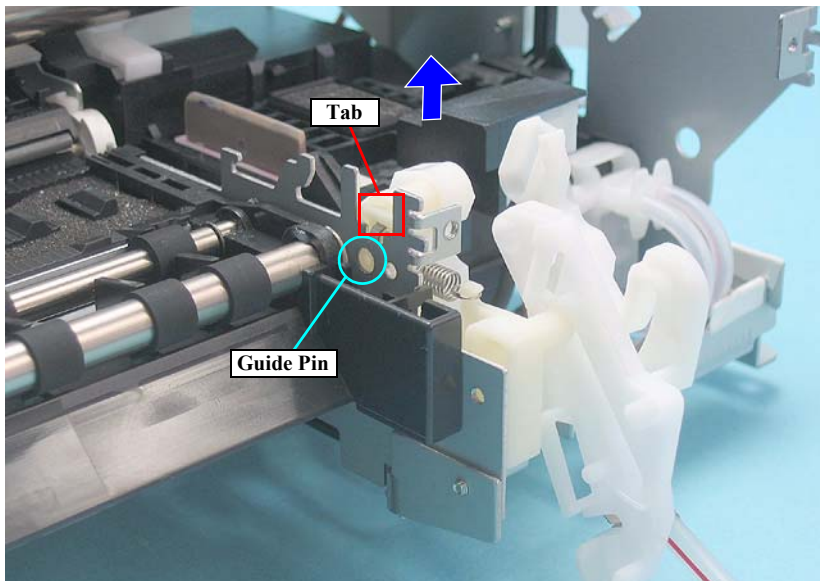

Figure 4-90. Removing the Right CD-R Release Lever Sub Assy (3)
- Align the positioning hole of the Right CD-R Release Lever Sub Assy with the tab on the Main Frame. See Figure 4-90.